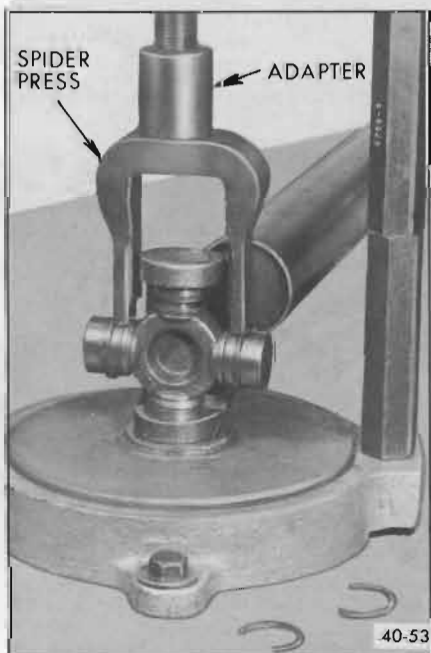

Figure 40-43—Pressing Out U-Joint Bearings
2. Set up Power Ram and Hydraulic Pump in preparation for removing the propeller shaft bearings. With this, use Axle Bearing and Retainer Replacer J-8853 as a base plate. Attach Adapter J-9522-2 to the ram screw. See Figure 40-43.